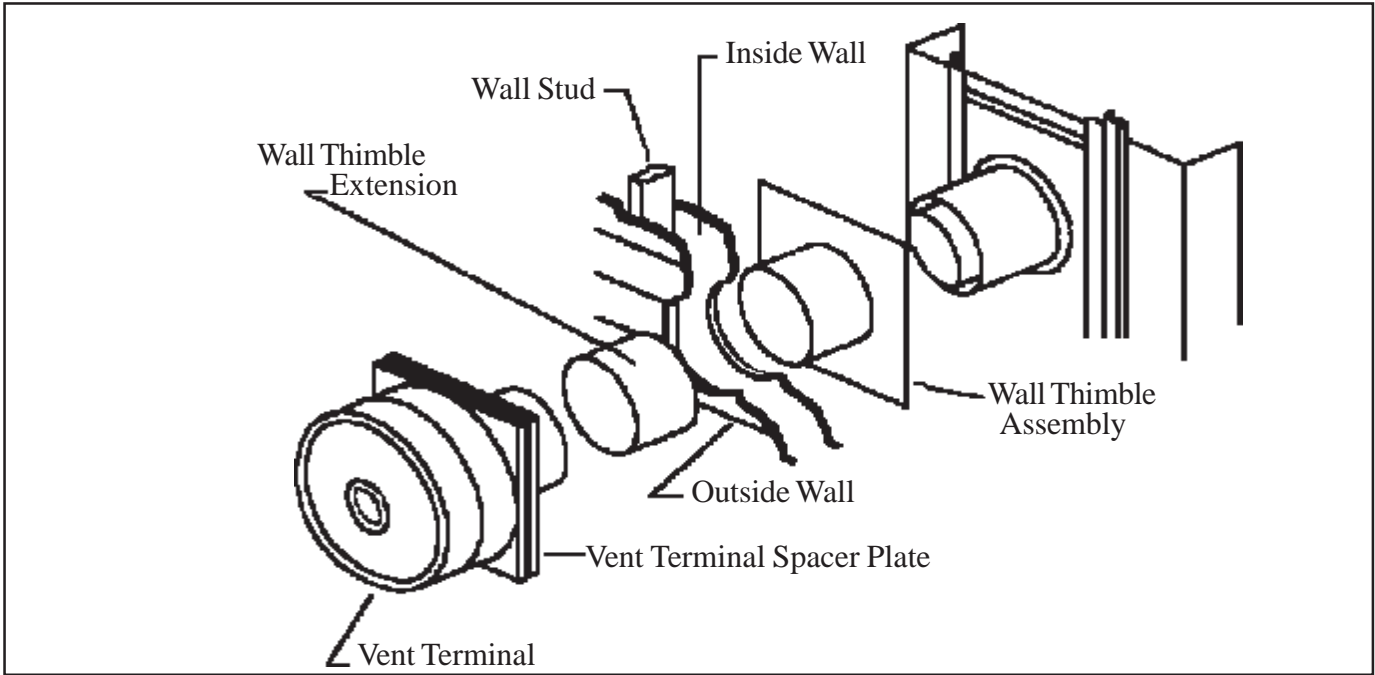

FIGURE 7
**STEP 3. INSTALLING FURNACE – 5" TO 9" WALLS.** Use only the exhaust tube, air intake tube, wall thimble extension, and vent terminal provided with furnace. Do not attempt to lengthen the exhaust or air intake tubes, this could cause an imbalance in the furnace resulting in poor performance and pilot outage, see Figure 6. Extend the telescoping wall thimble extension (surrounding the wall thimble assembly) to approximately 9 inches. Center the wall thimble assembly in the 9 inch opening and attach to inside wall using eight (8) screws. The wall thimble extension should extend through the opening and be adjusted so end of wall thimble extension is even with outside wall. Install furnace flush to wall by sliding exhaust tube and air intake tube through the wall thimble assembly. Secure the furnace to the wall with screws through each of the four holes in the mounting brackets located on the back of the furnace. These holes are spaced so as to allow the screws to enter into studs that are on 16 inch centers. On certain types of wall, anchors (not provided) may be required. Slide the vent terminal onto the exhaust tube and the air intake tube. Secure vent terminal and vent terminal spacer plate to wall providing a slight downward slope to the vent tubes. This will prevent water from entering. Anchors (not provided) may be required. Caulk around vent terminal spacer plate with putty provided. See Figure 7. NOTE: Some framing may be necessary to provide a flat surface for the vent terminal spacer plate to butt against, so rain cannot enter through cut out.
to 15” wall use Vent Kit No. VK1525/9-15-B. Do not attempt to lengthen the exhaust tube, air intake tube, or wall thimble extension provided with furnace or the VK1525/9-15-B Vent Kit. Disconnect the air intake tube, and the exhaust tube from the back of the furnace and discard. See Figure 6. Replace with exhaust tube and air intake tube from Kit No. VK1525/9-15-B. Discard the 5” telescoping wall thimble extension that surrounds the wall thimble assembly. Center the wall thimble assembly in the 9” opening and attach to inside wall using eight (8) screws. Install furnace flush to wall by sliding exhaust tube and air intake tube through the wall thimble assembly. Secure the furnace to the wall with screws through each of the four holes in the mounting brackets located on the back of the furnace. These holes are spaced so as to allow the screws to enter into studs that are on 16-inch centers. On certain types of wall, anchors (not provided) may be required. From outside the building install the thick wall thimble extension, Part No. 43835, supplied in Vent Kit No. VK1525/9-15-B by sliding it through the cut out and over the wall thimble assembly. The wall thimble extension should be even with the outside wall (some trimming may be necessary). Slide the vent terminal onto the exhaust tube and the air intake tube. Secure vent terminal and vent terminal spacer plate to wall providing a slight downward slope to the vent tubes. This will prevent water from entering. Anchors (not provided) may be required. Caulk around the vent terminal spacer plate with putty provided. See Figure 7. NOTE: Some framing may be necessary to provide a flat surface for the vent terminal spacer plate to butt against, so rain cannot enter through cut out.
15” to 24” wall use only Vent Kit No. VK1525/15-24-B. Do not attempt to lengthen the exhaust tube, air intake tube, or wall thimble extension provided with furnace. The VK1525/15-24-B Vent Kit has a one inch restrictor in the exhaust tube which is necessary for proper and safe operation of this furnace. Do not use any other vent kit. Disconnect the air intake tube and the exhaust tube from the back of the furnace and discard, see Figure 6. Install the exhaust tube and air intake tube from Vent Kit No. VK1525/15-24-B. Discard the 5” telescoping wall thimble extension that surrounds the wall thimble assembly. Center the wall thimble assembly in the 9” opening and attach to inside wall using eight (8) screws. Install furnace flush to wall by sliding exhaust tube and air intake tube through the wall thimble assembly. Secure the furnace to the wall with screws through each of the four holes in the mounting brackets located on the back of the furnace. These holes are spaced so as to allow the screws to enter into studs that are on 16-inch centers. On certain types of walls, anchors (not provided) may be required. From outside the building install the wall thimble extension, Part No. 43730, supplied in Vent Kit No. VK1525/15-24-B by sliding it through the cut out and over the wall thimble extension. For walls 15” to 19” the wall thimble extension, air intake tube, and the exhaust tube must be trimmed even with the outside wall. Slide the vent terminal onto the exhaust tube and into the air intake tube. Secure vent terminal and vent terminal spacer plate to wall providing a slight downward slope to the vent tubes. This will prevent water from entering. Anchors (not provided) may be required. Caulk around the vent terminal spacer plate with putty provided, see Figure 7. NOTE: Some framing may be necessary to provide a flat surface for the vent terminal spacer plate to butt against, so rain cannot enter through the cut out.
Kit No. VK33/9-15-B. Do not attempt to lengthen the exhaust tube, air intake tube, or wall thimble extension provided with furnace or the VK33/9-15-B Vent Kit. Disconnect the air intake tube, and the exhaust tube from the back of the furnace and discard. See Figure 6. Replace with exhaust tube and air intake tube from Kit No. VK33/9-15-B. Discard the 5” telescoping wall thimble extension that surrounds the wall thimble assembly. Center the wall thimble assembly in the 9” opening and attach to inside wall using eight (8) screws. Install furnace flush to wall by sliding exhaust tube and air intake tube through the wall thimble assembly. Secure the furnace to the wall with screws through each of the four holes in the mounting brackets located on the back of the furnace. These holes are spaced so as to allow the screws to enter into studs that are on 16-inch centers. On certain types of wall, anchors (not provided) may be required. From outside the building install the thick wall thimble extension, Part No. 43835, supplied in Vent Kit No. VK33/9-15-B by sliding it through the cut out and over the wall thimble assembly. The wall thimble extension should be even with the outside wall (some trimming may be necessary). Slide the vent terminal onto the exhaust tube and the air intake tube. Secure vent terminal and vent terminal spacer plate to wall providing a slight downward slope to the vent tubes. This will prevent water from entering. Anchors (not provided) may be required. Caulk around the vent terminal spacer plate with putty provided. See Figure 7. NOTE: Some framing may be necessary to provide a flat surface for the vent terminal spacer plate to butt against, so rain cannot enter through cut out.